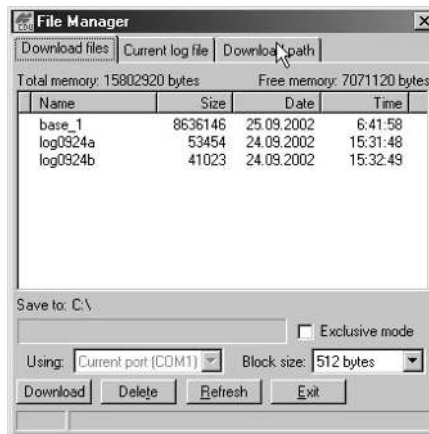

Figure 4-5. Find Files to Download
- Click the **Download path** tab on the File Manager dialog box (Figure 4-5).